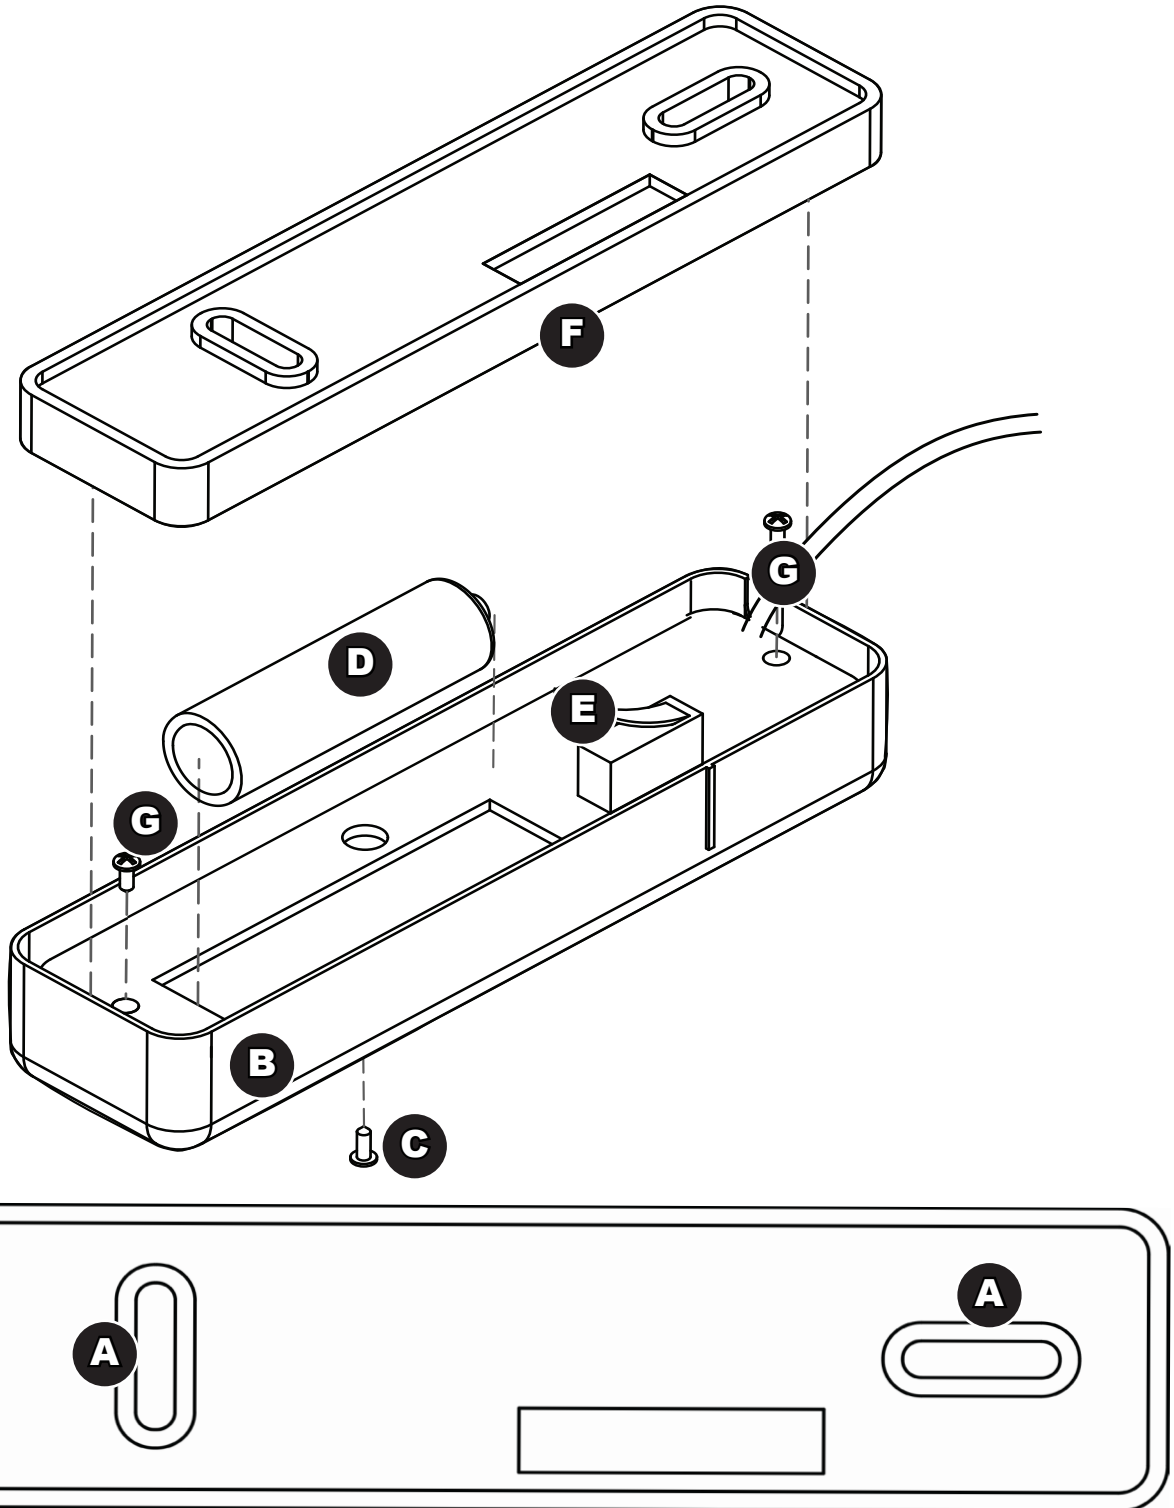

Fig. 2
3. Insert the battery D as shown in figure 2. The red LED will begin to flash intermittently;